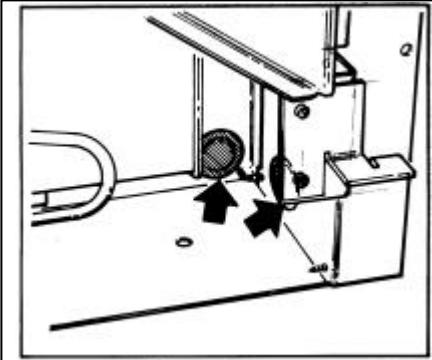

Figure 13 Concealed openings
7.1 If the gas supply pipe is to enter through the concealed rear or side opening, pierce the relevant grommet (See figure 13). If the supply pipe is sleeved, trim the sleeve back where it enters the appliance and seal the sleeve to the pipe. If using the concealed side opening, we suggest that the supply pipe is cut so that it enters the side of the appliance by approximately 25mm and, after fitting the unit to the wall, using a compression elbow, connect to a formed pipe running to the appliance elbow.